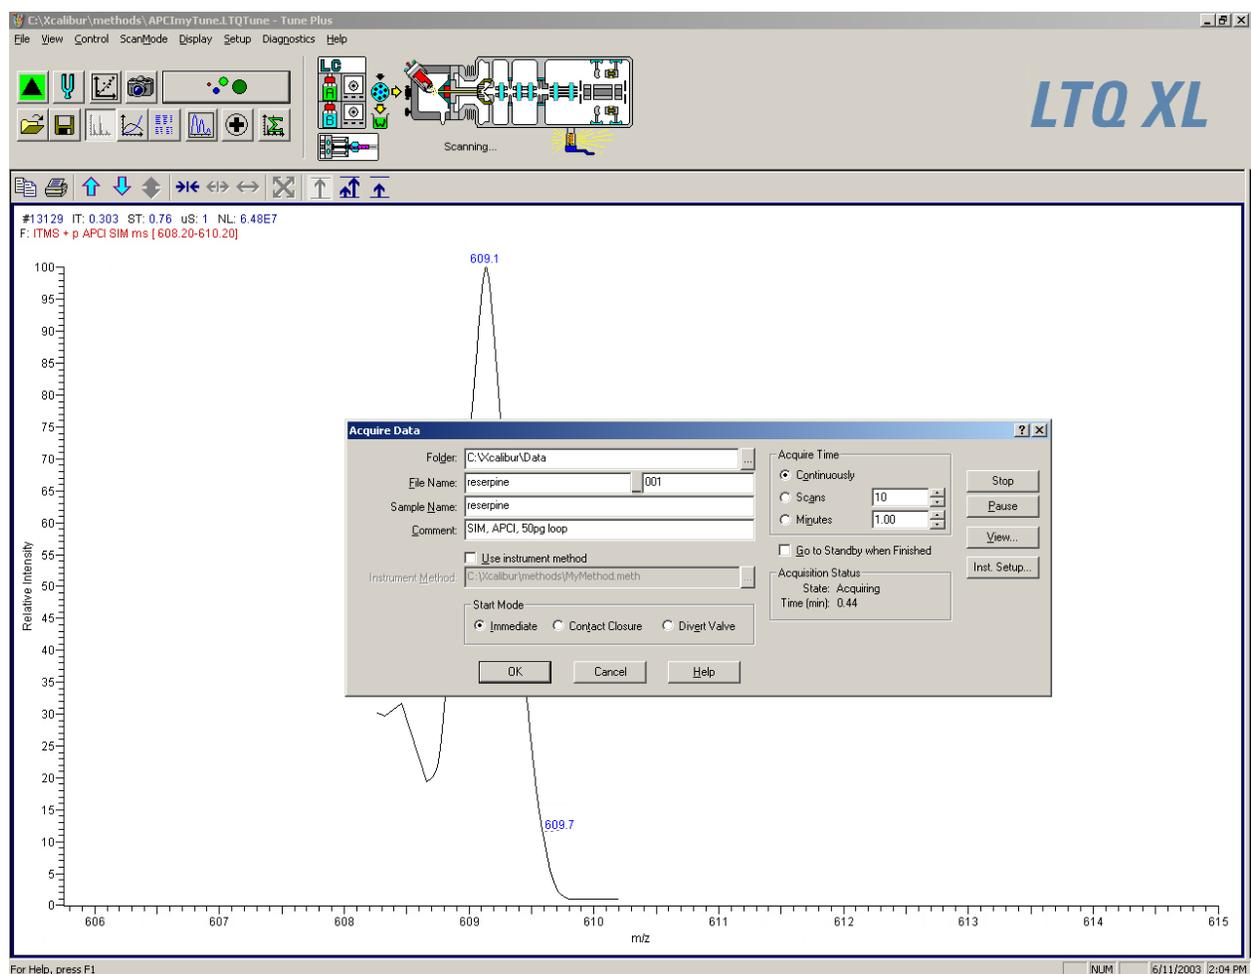

Figure 67. Tune Plus window, showing the SIM spectrum of reserpine during analysis by loop injection
8. Click **Start** in the Acquire Data dialog box to begin acquiring data to the file reserpine3.raw. See Figure 67. The Acquisition Status group box displays the following message.